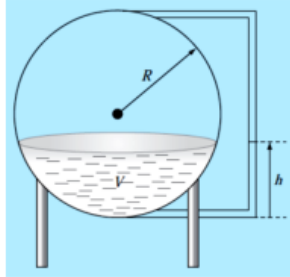

Figure-1
1. You are designing a spherical tank (Figure-1) to hold water for a small village in a developing country. 10